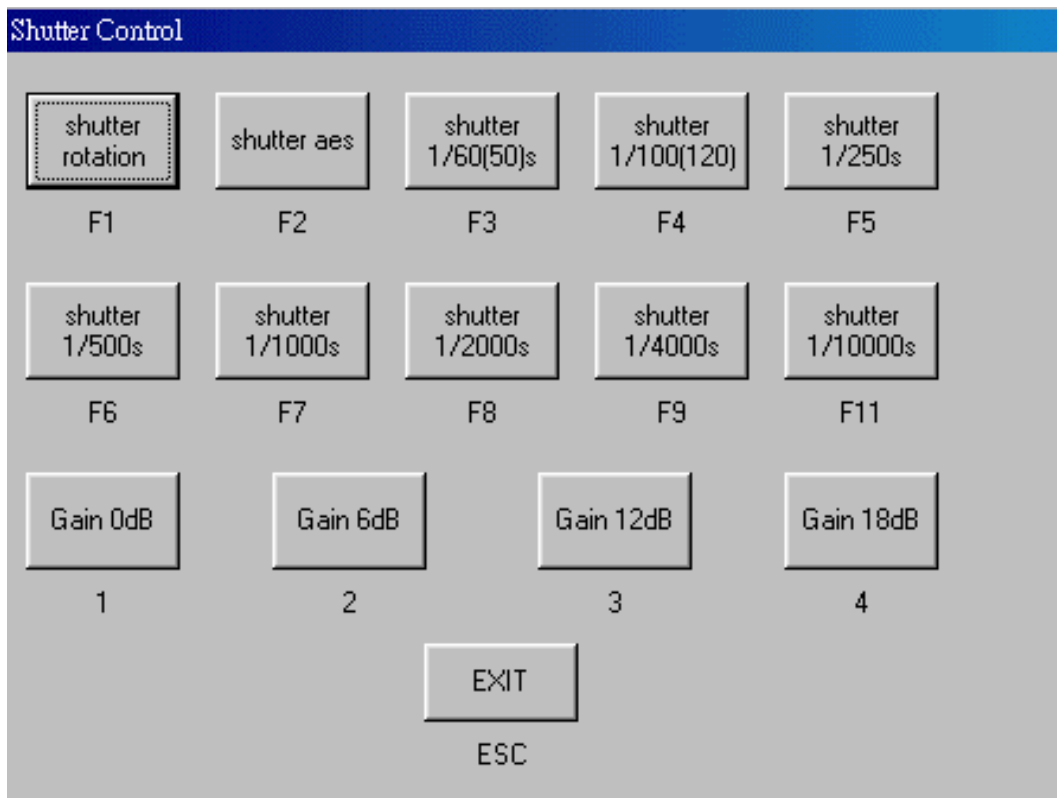

Figure 2 - 4 Software Shutter control
4.5) Click the desired shutter setting on the menu and confirm that the video settings are changed as shown in **Figure 2 – 4**.